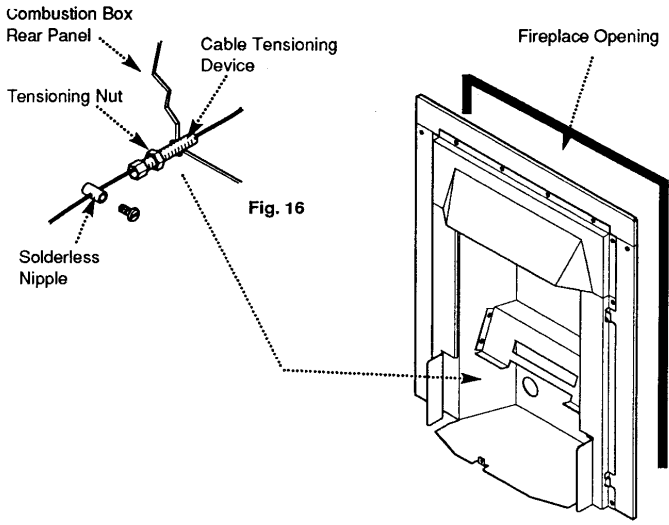
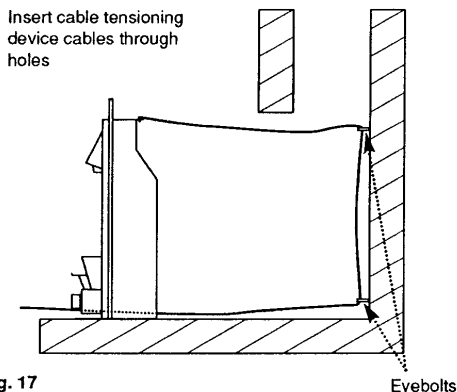

Fig. 16
Fig. 17
8. Engage the tensioning nuts on the threaded shanks of the tensioning devices. Run the nuts down to the hexagonal heads of the tensioning devices (Fig. 16).
9. From the front insert the cable tensioning devices through the combustion box rear panel. The hexagonal heads must be to the inside of the box (Fig. 16).
10. Position the appliance in front of the fireplace opening and insert the cables in the holes in the combustion box rear flange (Fig.17). Pass the cables through the eyebolts in the builders opening rear face and insert them in the tensioning devices (Fig. 16 & 17). Manoeuvre the appliance backwards into the opening, drawing any slack length of cable through the tensioners.
12. Run the solderless nipples down the cables to the tensioners and tighten their securing screws (Fig. 16). As required, take the relevant grommet(s) and slide over the gas supplies. Run the grommet(s) down the pipe and insert in the hole in the rear panel (Fig. 18).